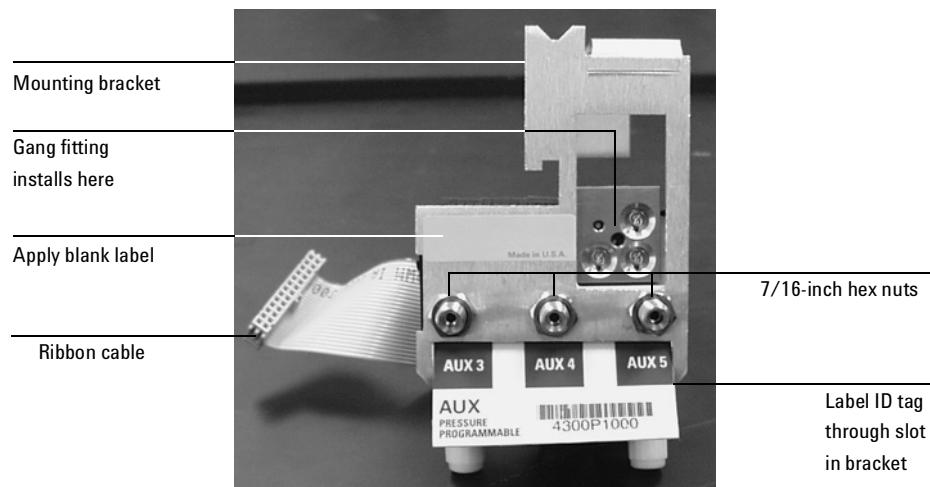

Figure 360-4 Bracket mounted onto the manifold
2. Finger-tighten three 7/16-inch hex nuts over the fittings to hold the bracket in place. It is **very important** that you do **not** tighten the nuts yet. See Figure 360-4.
3. Peel the blank label from its backing and paste it on the mounting bracket over the screw heads. See Figure 360-4.